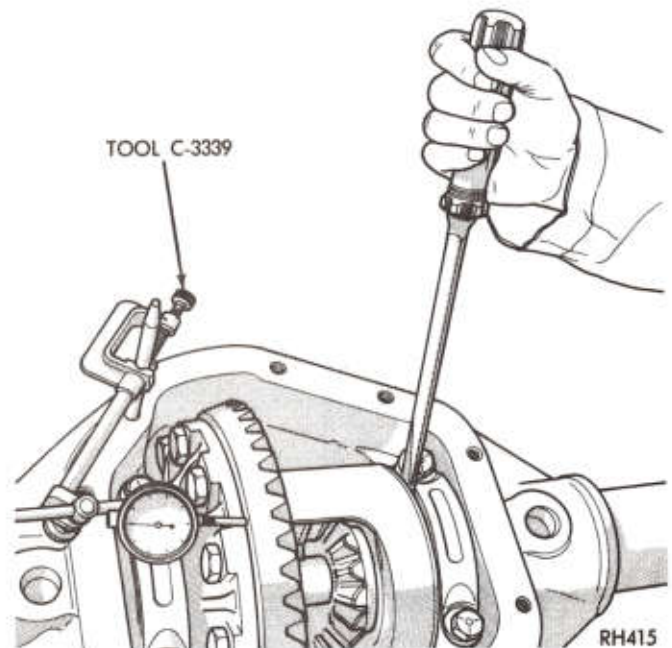

Fig. 13—Determining Shims to Obtain "0" End Clearance
(5) Insert differential case in carrier. Install bearing caps in their correct positions and tighten bearing cap bolts finger tight.
(6) Install dial indicator fixture with indicator pointer contacting back face of drive gear.
(7) Insert a screwdriver blade between bearing cup and housing and pry case assembly as far as possible to one side of housing (Fig. 13). Set dial indicator at zero. Using screwdriver, pry case to opposite side of housing and record the reading.
(9) With master bearing Tool D-117 installed on the differential case, place assembly into housing.
(10) Set up dial indicator as shown in (Fig. 13). Press ring gear into mesh with the pinion. Rock ring gear to allow the teeth of the gears to mesh. With